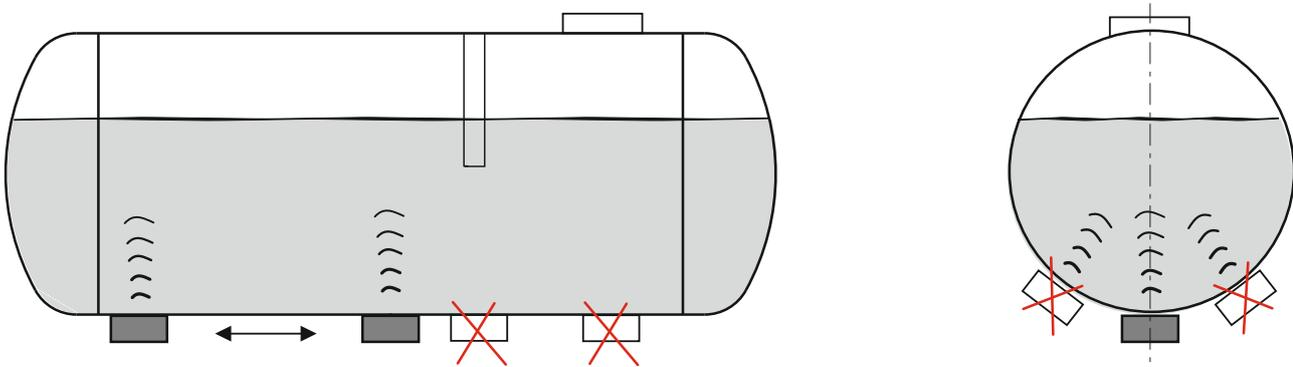

Fig. 9.1 – Correct and incorrect installation locations of the lower meter on the tank
9.1 In order to achieve the optimum operating mode, the lower transmitter meter must be precisely installed at the lowest point of the tank, as shown in Fig. 9.1: